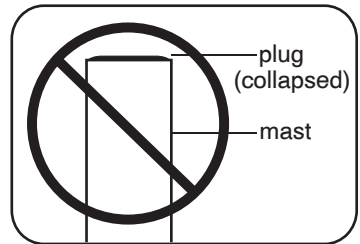
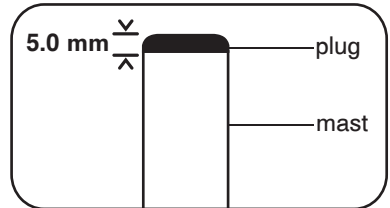

Figure 1: Tip plug has collapsed, need to replace plug.
Figure 2: Tip plug correct.
b) Check that the tip plug on your mast has not collapsed into the mast (figure 1). The plug should extend approx. 5.0mm above the top of the mast (figure 2). Replace the plug if needed.